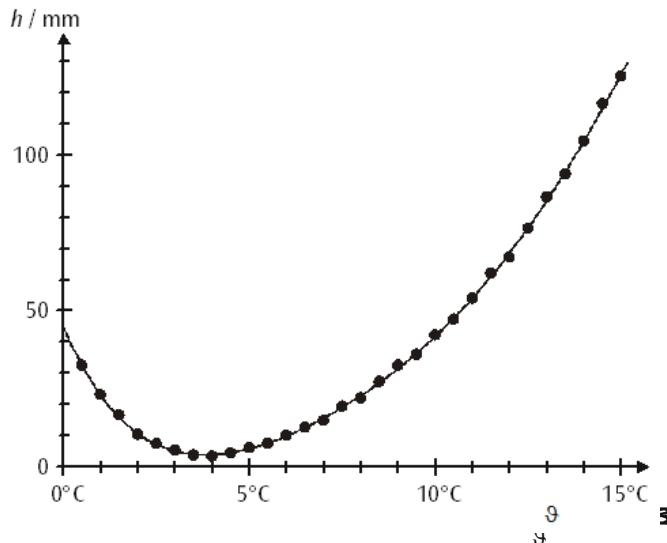

Fig. 3: Water level h as a function of temperature θ
Fig. 3 shows the curve resulting from the values in Table 1. The water level h in the riser pipe at 0°C is established by extrapolation. With this data, we get $h(0^\circ\text{C}) = 44.7\text{mm}$. Using Equation (3), we can now calculate the relative density of water.